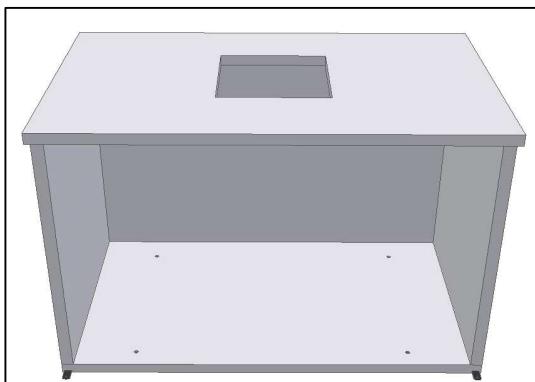

Fig. 6
- Fix the **panel of the top** to the three upright panels and fasten the camlocks of the back panel (Fig.6);